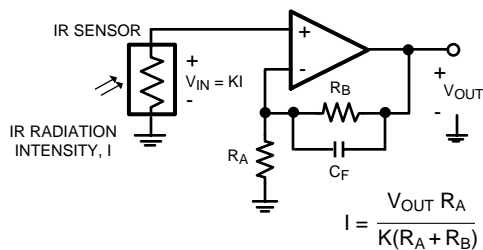

Figure 51. IR Radiation Sensor
The low input bias current and low input referred noise of the LM6211 make it ideal for sensor interfaces. These circuits are required to sense voltages of the order of a few  $\mu\text{V}$ , and currents amounting to less than a nA, and hence the op amp needs to have low voltage noise and low input bias current. Typical applications include infrared (IR) thermometry, thermocouple amplifiers and pH electrode buffers. Figure 51 is an example of a typical circuit used for measuring IR radiation intensity, often used for estimating the temperature of an object from a distance. The IR sensor generates a voltage proportional to  $I$ , which is the intensity of the IR radiation falling on it. As shown in Figure 51,  $K$  is the constant of proportionality relating the voltage across the IR sensor ( $V_{IN}$ ) to the radiation intensity,  $I$ . The resistances  $R_A$  and  $R_B$  are selected to provide a high gain to amplify this voltage, while  $C_F$  is added to filter out the high frequency noise.